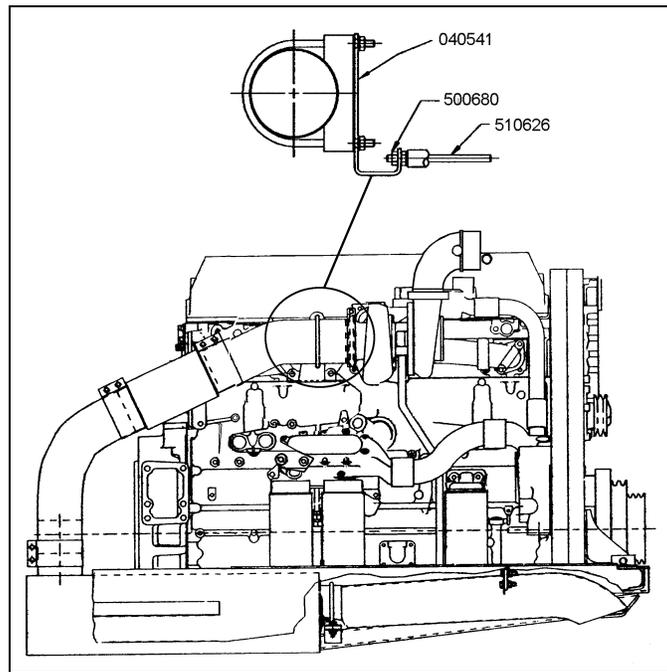

FIGURE 2: VIEW OF ENGINE – TURBOCHARGER SIDE
4. Remove the two bolts which secure former reinforcement bracket (refer to fig. 2).
5. Torque both engine stud bolts (Prévost #510626) to 43 - 54 lbf.ft (58 - 73 Nm). Install new reinforcement bracket (Prévost #040541) and tighten nuts (Prévost #500680) as shown in figure 2.